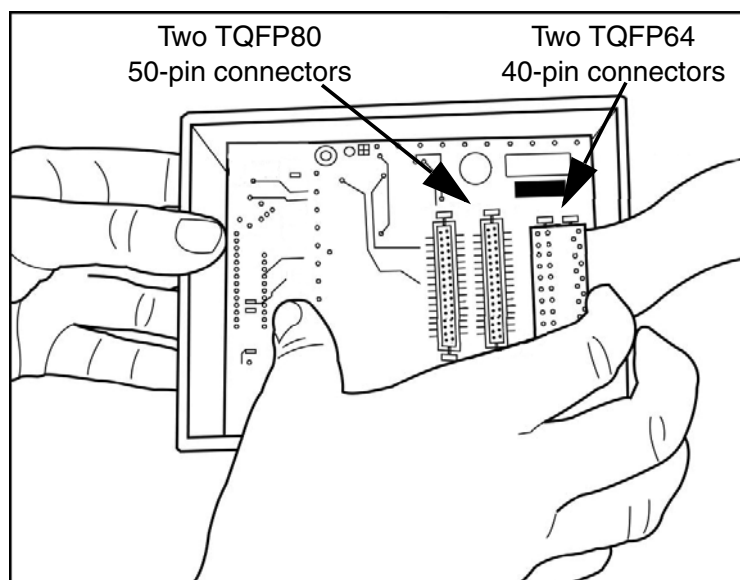

Figure 4: Connecting flex adapter to TEB
- 2 Using Table 1, identify the TEB connectors you must use for your microcontroller's package. Connect the flex adapter supporting your microcontroller package to the appropriate connectors on the bottom face of the TEB. Figure 4 shows a TQFP64 flex adapter (DB513 or DB520) being inserted into its two TQFP64 40-pin connectors.